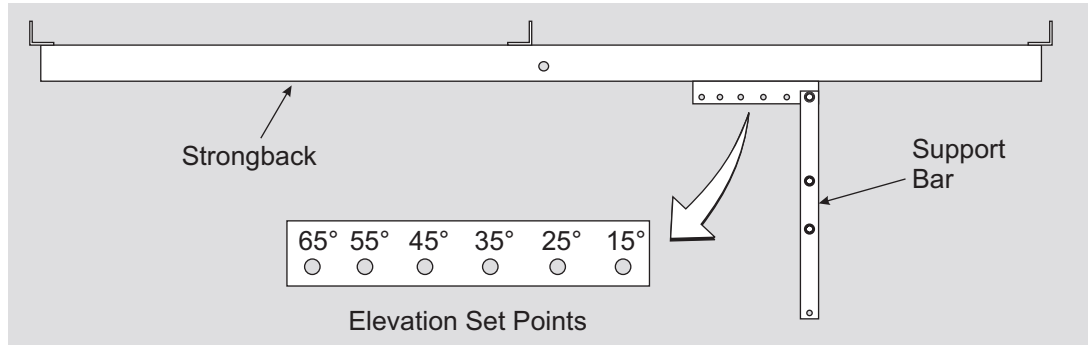

Figure 7-2: Setting the Tilt Angle
- B. Tilt the rack to the desired elevation angle (i.e., 15°, 25°, 35°, 45°, 55°, or 65°) and re-attach the Support Bar to the Strongback, placing the 3/8" or 1/2" hardware in the appropriate hole matching the desired elevation. **Torque to 32-34 ft.-lbs. for 3/8" hardware or 72-80 ft.-lbs. for 1/2" hardware.** (See Figure 7-2)